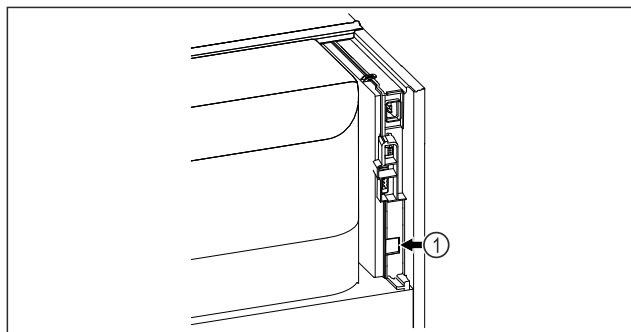

Fig. 167
- SmartModule Fig. 167 (1) is in use.